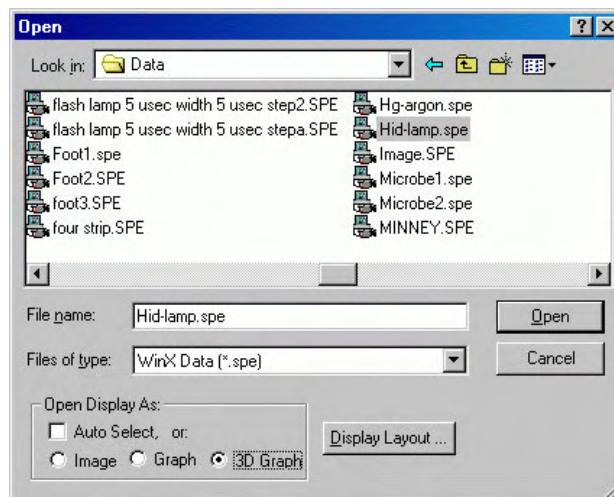

Figure 62. Open dialog box
1. From the File menu select **Open**. The Open dialog box (Figure 62) will appear, allowing you to select the image to be opened. The Look-In box provides a browser function so that the directory where the images are located can be easily accessed. By default the data directory is a subdirectory of WinView program directory. Files of the specified type (*the WinView/32 data type is *.spe*) in the current directory and any subdirectories are listed in the box below the directory name.